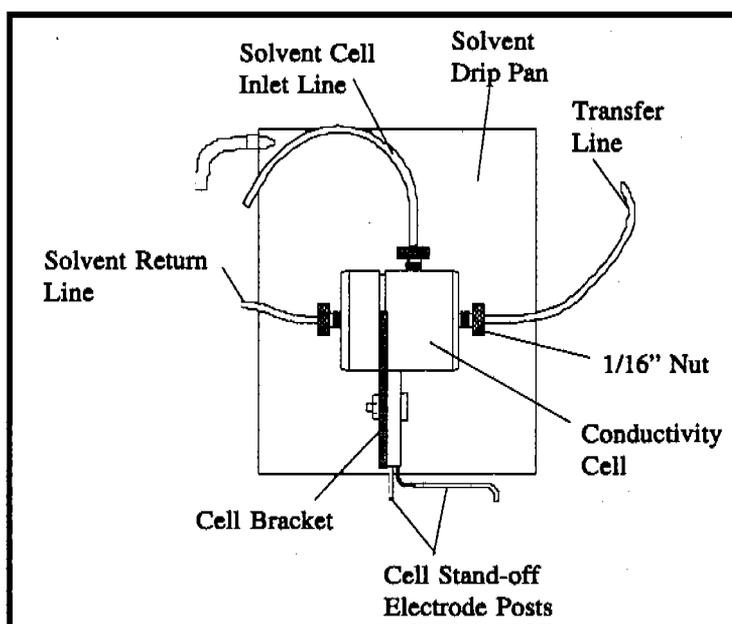

Figure 5.4. Conductivity Cell Assembly
- Remove the three solvent lines from the conductivity cell by removing the three nuts. (see Figure 5.4).
- Connect the three solvent lines to the conductivity cell (see Figure 5.4). Do not overtighten the 1/16" nuts—**finger-tight** will suffice.